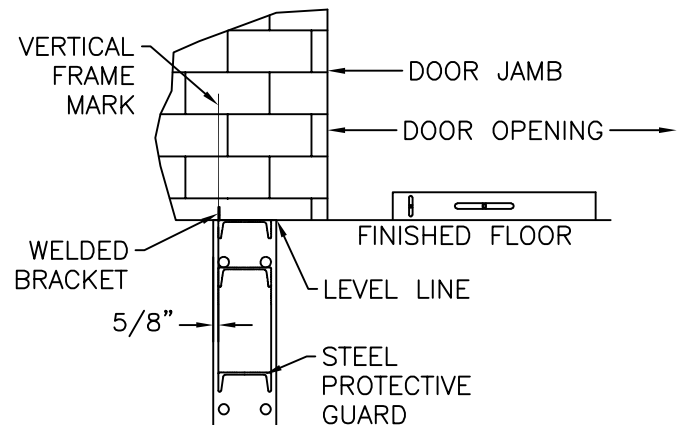

FIG. 5
- ❖ Determine left and right Protective Guards. The welded bracket goes to the side farthest away from door opening (Figure 5).